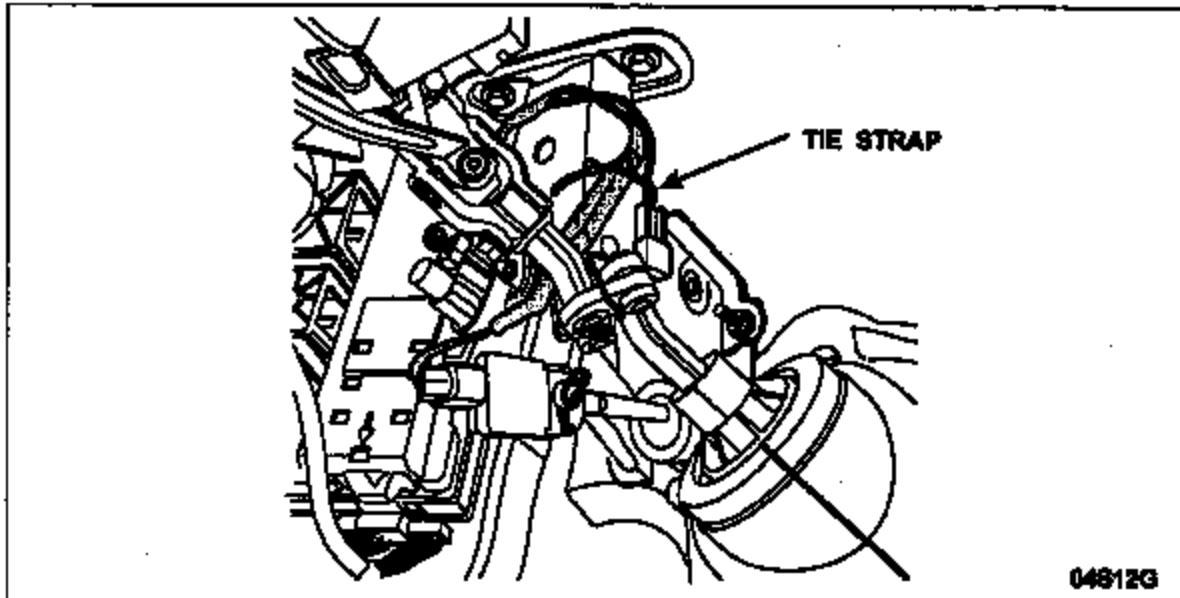

FIGURE 7
12. Position the harness back over the steering column and into place, then secure the push-pin retainer(s) to the brake pedal bracket. Be sure the excess wiring is positioned so it does not interfere with any moving components. Use the supplied tie straps to secure the wires. Install one to secure the plastic brace to the brake pedal bracket and the other to secure the wires as necessary. See Figure 7.